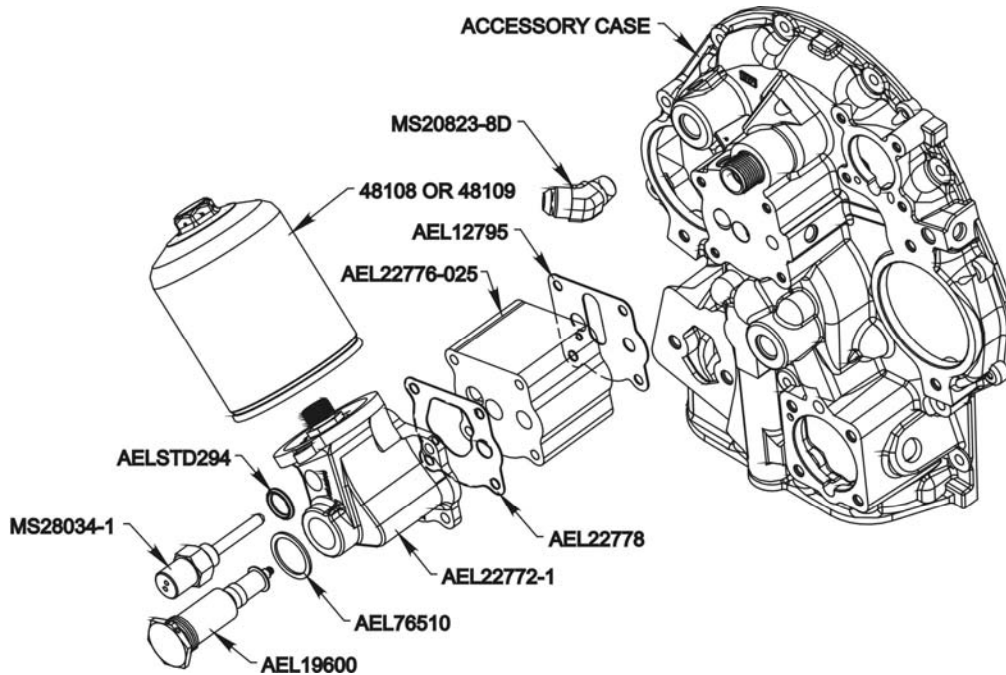

Figure 2: Assembly of ECi Angled Oil Filter Adapter and Components
- 6.3 To ensure that you have the correct kit, temporarily assemble an oil filter and all adapters together and fit the assembly on your accessory case (see Figure 2). At least ½ inch clearance should be maintained from the firewall or any other structure on the aircraft or engine.